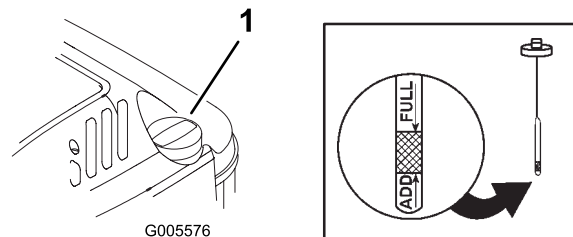

Figure 8
Before each use, ensure that the oil level is between the Add and the Full marks on the dipstick (Figure 8).
2. Clean around the dipstick (Figure 8).
6. Read the oil level on the dipstick (Figure 8).
Before you use the mower, ensure that the oil level is between the Add and the Full marks as shown on the dipstick (Figure 8). If the oil level is below the Add mark, add oil Refer to Filling the Crankcase Oil.